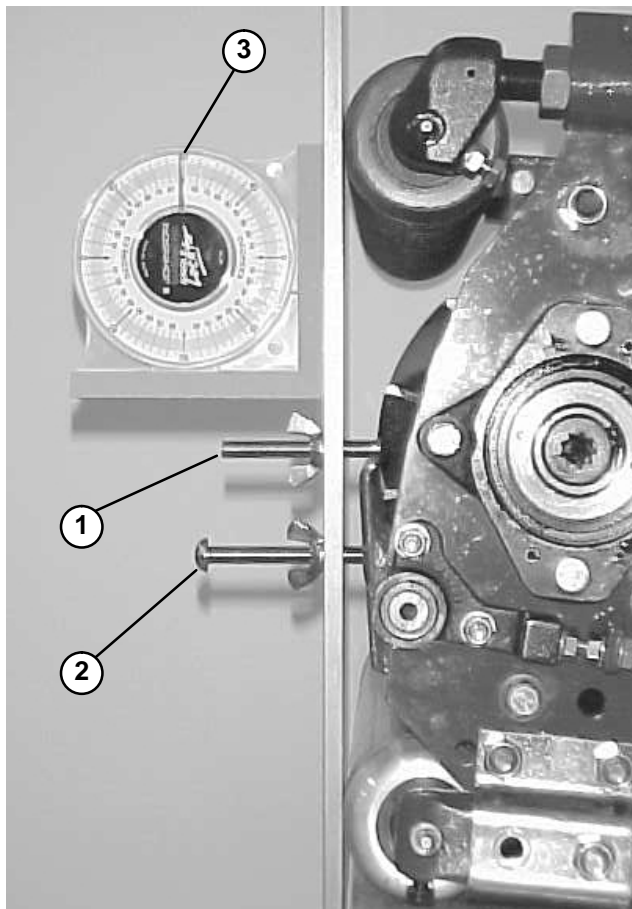

Figure 19
4. Place the gauge bar across front and rear rollers. The first screw head needs to fit snugly over edge of the bedknife, while the gauge bar contacts the front roller (Fig. 19).
5. Place an angle indicator on the gauge bar and record the gauge bar angle (Fig. 19).